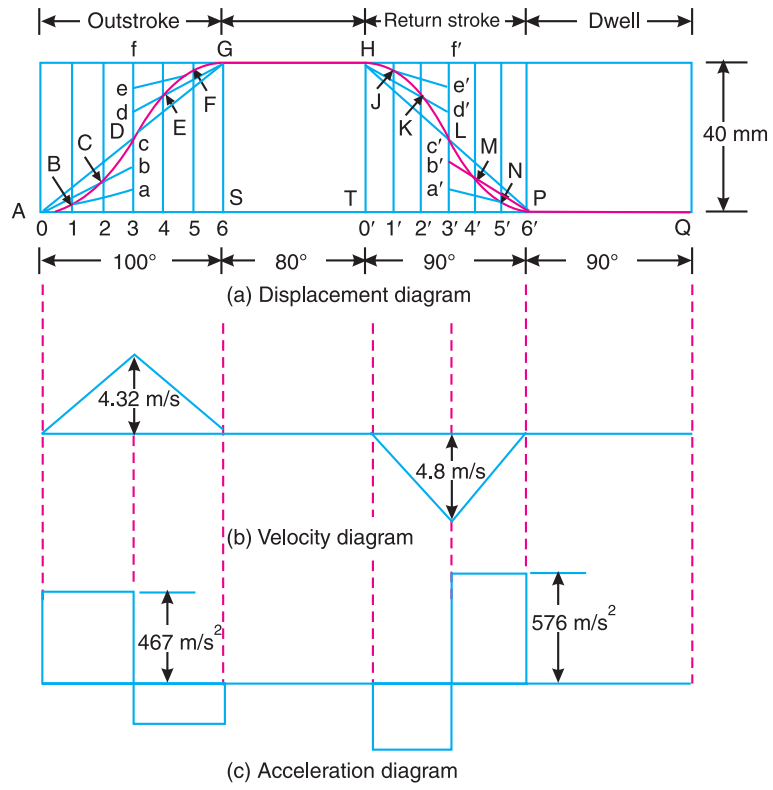

Fig. 20.24
First of all, the displacement diagram, as shown in Fig. 20.24 (a), is drawn as discussed in the following steps :
4. Divide the vertical lines 3-f and $3'-f'$ into six equal parts as shown by points $a, b, c \dots$ and $a', b', c' \dots$ in Fig. 20.24 (a).
7. Join the points B, C and D with a smooth curve. This is the required parabola for the half outstroke of the valve. Similarly the other curves may be drawn as shown in Fig. 20.24.
The velocity diagram is shown in Fig. 20.24 (b).
The acceleration diagram is shown in Fig. 20.24 (c).